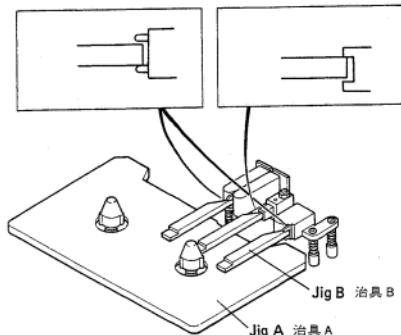

Fig. 4-4
1. Set jigs A and B as shown in Fig. 4-4, and put the deck into Play mode.
- 1). ヘッド調整治具A, Bを図4-4 の様にセットしプレイ・